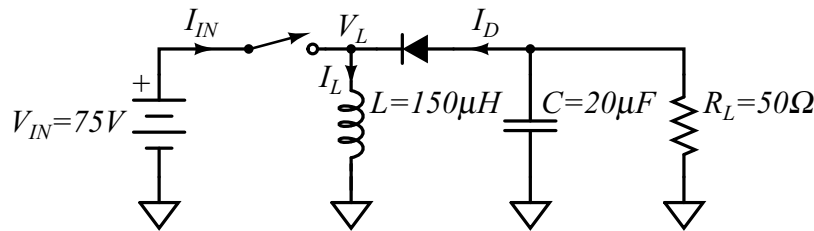

Figure 4.1: Flyback Converter
**Problem 1** The flyback converter shown in Figure 4.1 is operating in steady state with a constant frequency PWM-type switch drive at a switching frequency of 100kHz.